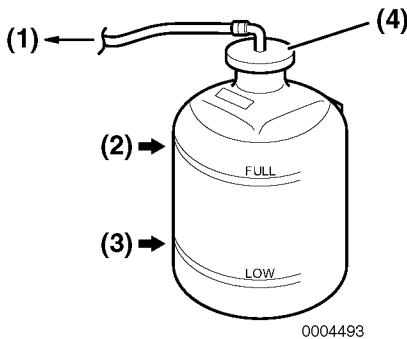

Figure 19
- Check the coolant level in the reservoir. The level should be at the FULL mark (**Figure 19, (2)**). Add coolant if necessary.
- Remove reservoir cap (**Figure 19, (4)**) to add coolant if necessary. Do not add water.
- Check the rubber hose (**Figure 19, (1)**) connecting the reservoir to reservoir / heat exchanger. Replace if damaged.